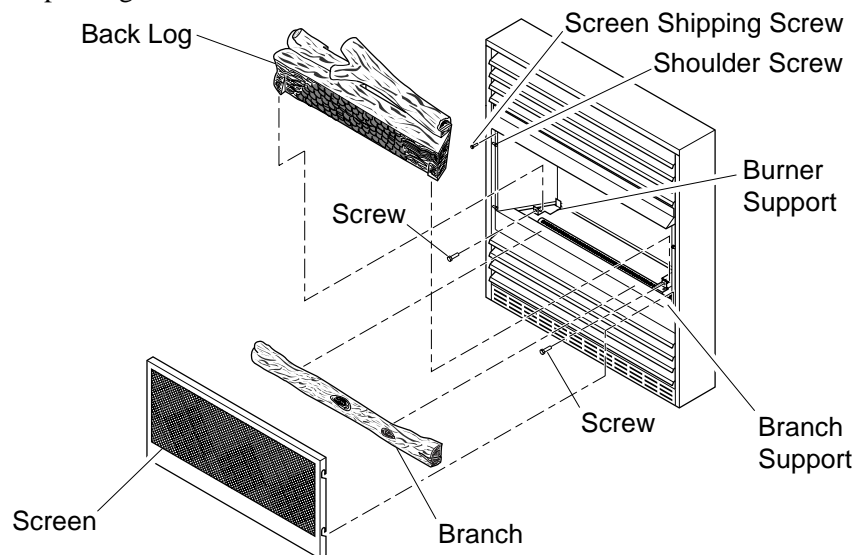

Figure 2 - Assembling Fireplace
2. Remove two shipping screws above screen (see Figure 2).
5. Gently place back log on burner support (see Figure 2). The log should fit flat against top of burner support. Place two #10 one-inch-long screws through burner support into the log and tighten. Place branch on branch support (see Figure 2).